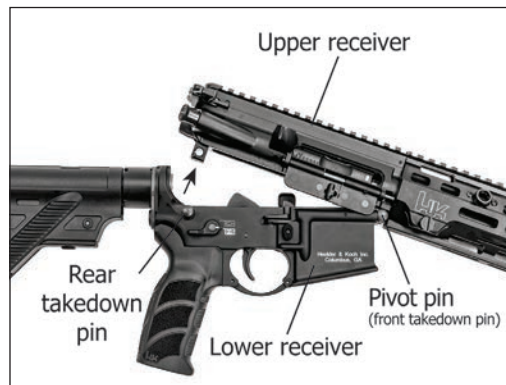

Fig. 40 – Closing Upper and Lower Receiver
- Mount the lower receiver to the upper receiver. Drift the pivot pin from right to left until the pin reaches its limit of lateral travel. The tip of the pivot pin should be visible on the left-hand side of the lower receiver (Fig. 40).